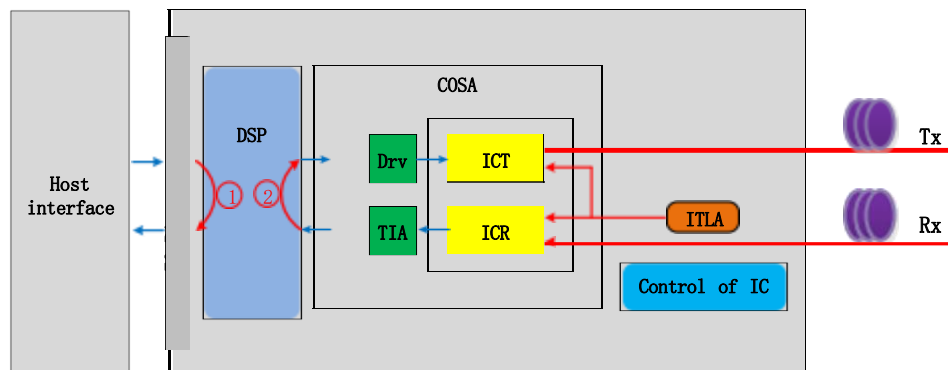

Figure 4: Module Loopback Orientation
The module support loopback functionality. The host loopback (Loopback ①) and the network loopback (Loopback ②) are shown at bellowing figure 4. For details on controlling the loopback mode, please refer to Reference [2]. In optional loopback, TXn is looped back to RXn, for example TX0+ to RX0+, on both host and media side.